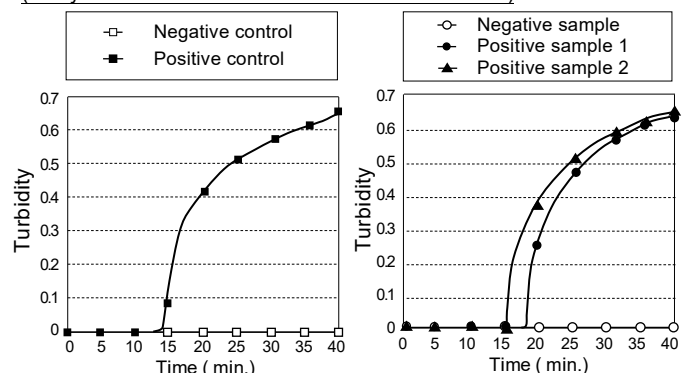

Fig. 1 : Amplification plots for controls. Fig. 2 : Amplification plots for samples.
- Watch the turbidimeter display to check the positive and negative controls for any increase in the turbidity. If the turbidity increases in the positive control but not in the negative control, the amplification reaction is proceeding correctly (Fig. 1). If this is not the case, the amplification reaction might be proceeding the wrong way. In such a case, retest the affected samples.
After confirming that the turbidity increases in the positive control but not in the negative control, evaluate samples per the following criteria (Figs. 1 and 2):